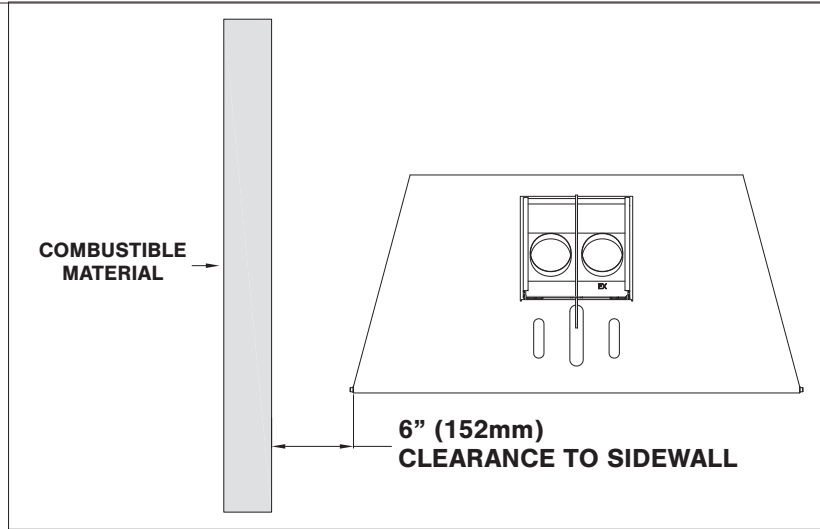

Figure 8.1, Clearance to Sidewall
- The adjacent sidewall minimum clearance is 6" (152mm) from the appliance sides (Fig 8.1).